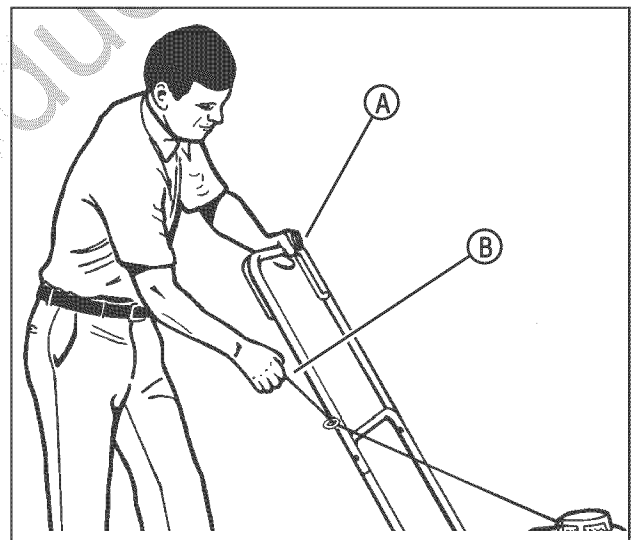

Figure 14: Starting the engine
6. Stand behind the mower. Use one hand to hold the engine stop lever in the operating position (A, Figure 14). Use the other hand to hold the recoil-start grip (B).